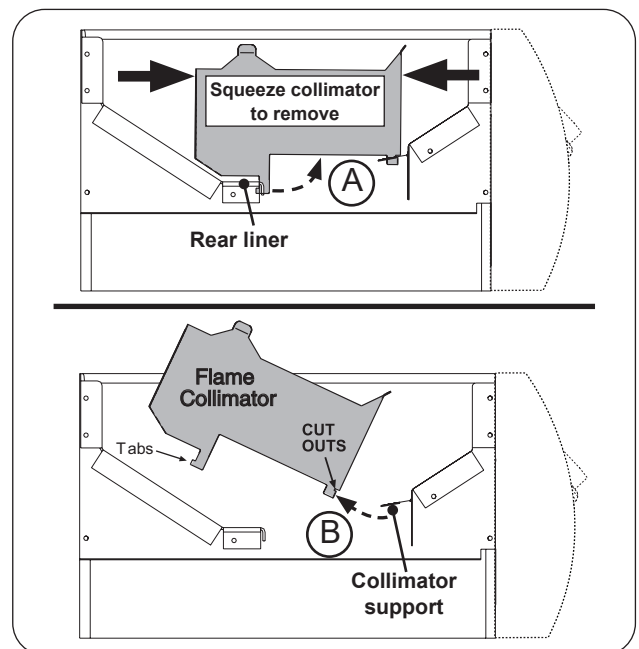

Fig. 41-2 Flame collimator removal
2. Squeeze the collimator to detach the rear tab from the rear liner as shown in Fig. 41-2, A, and lift up the rear portion of the collimator.
3. Detach the collimator from the front collimator support and completely remove the collimator as shown in Fig. 41-2, B.